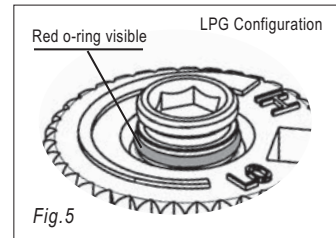

Fig. 5
- 19) Verify that if the conversion is from NG to LPG, the screw must be re-assembled with the red o-ring visible (Fig. 5).